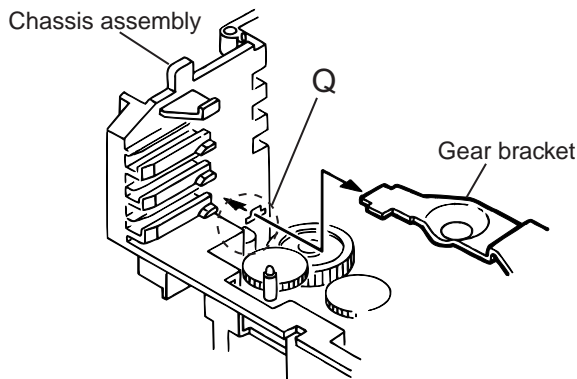

Fig.19
1. Remove the two screws 10 retaining the gear bracket (See Fig.19).
2. While pressing the pawl "P" fixing the gear bracket in the arrow direction, remove the gear bracket (See Fig.19).
4. Remove the belts respectively from the right and left actuator motor pulleys and pulley gears(See Fig. 19).